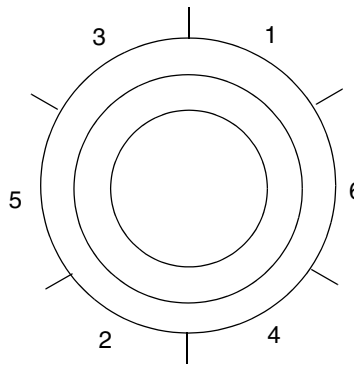

Figure 6. Welding Procedure
2. Weld the spud mounting ring in sections as indicated in Figure 6.
3. Tack weld using the welding sequence shown in Figure 6. Cool each section with water until the temperature is below 700°F (370°C) before proceeding to the next section.
2. Tack weld using the welding sequence shown in Figure 6. Cool each section with water until the temperature is below 700°F (370°C) before proceeding to the next section.
Figure 6 shows a typical piping application. Calibration supply pressure can be applied via a calibration screw. The lower conduit port can be used as a drain for moisture buildup in terminal compartment.